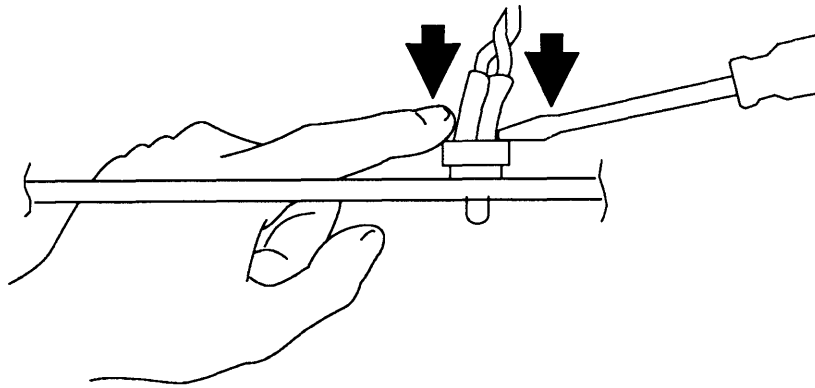

FIGURE 36
2. Slide the retaining ring down the wires and position it around the LED holder. Push the ring back into place with the screwdriver (Figure 36).